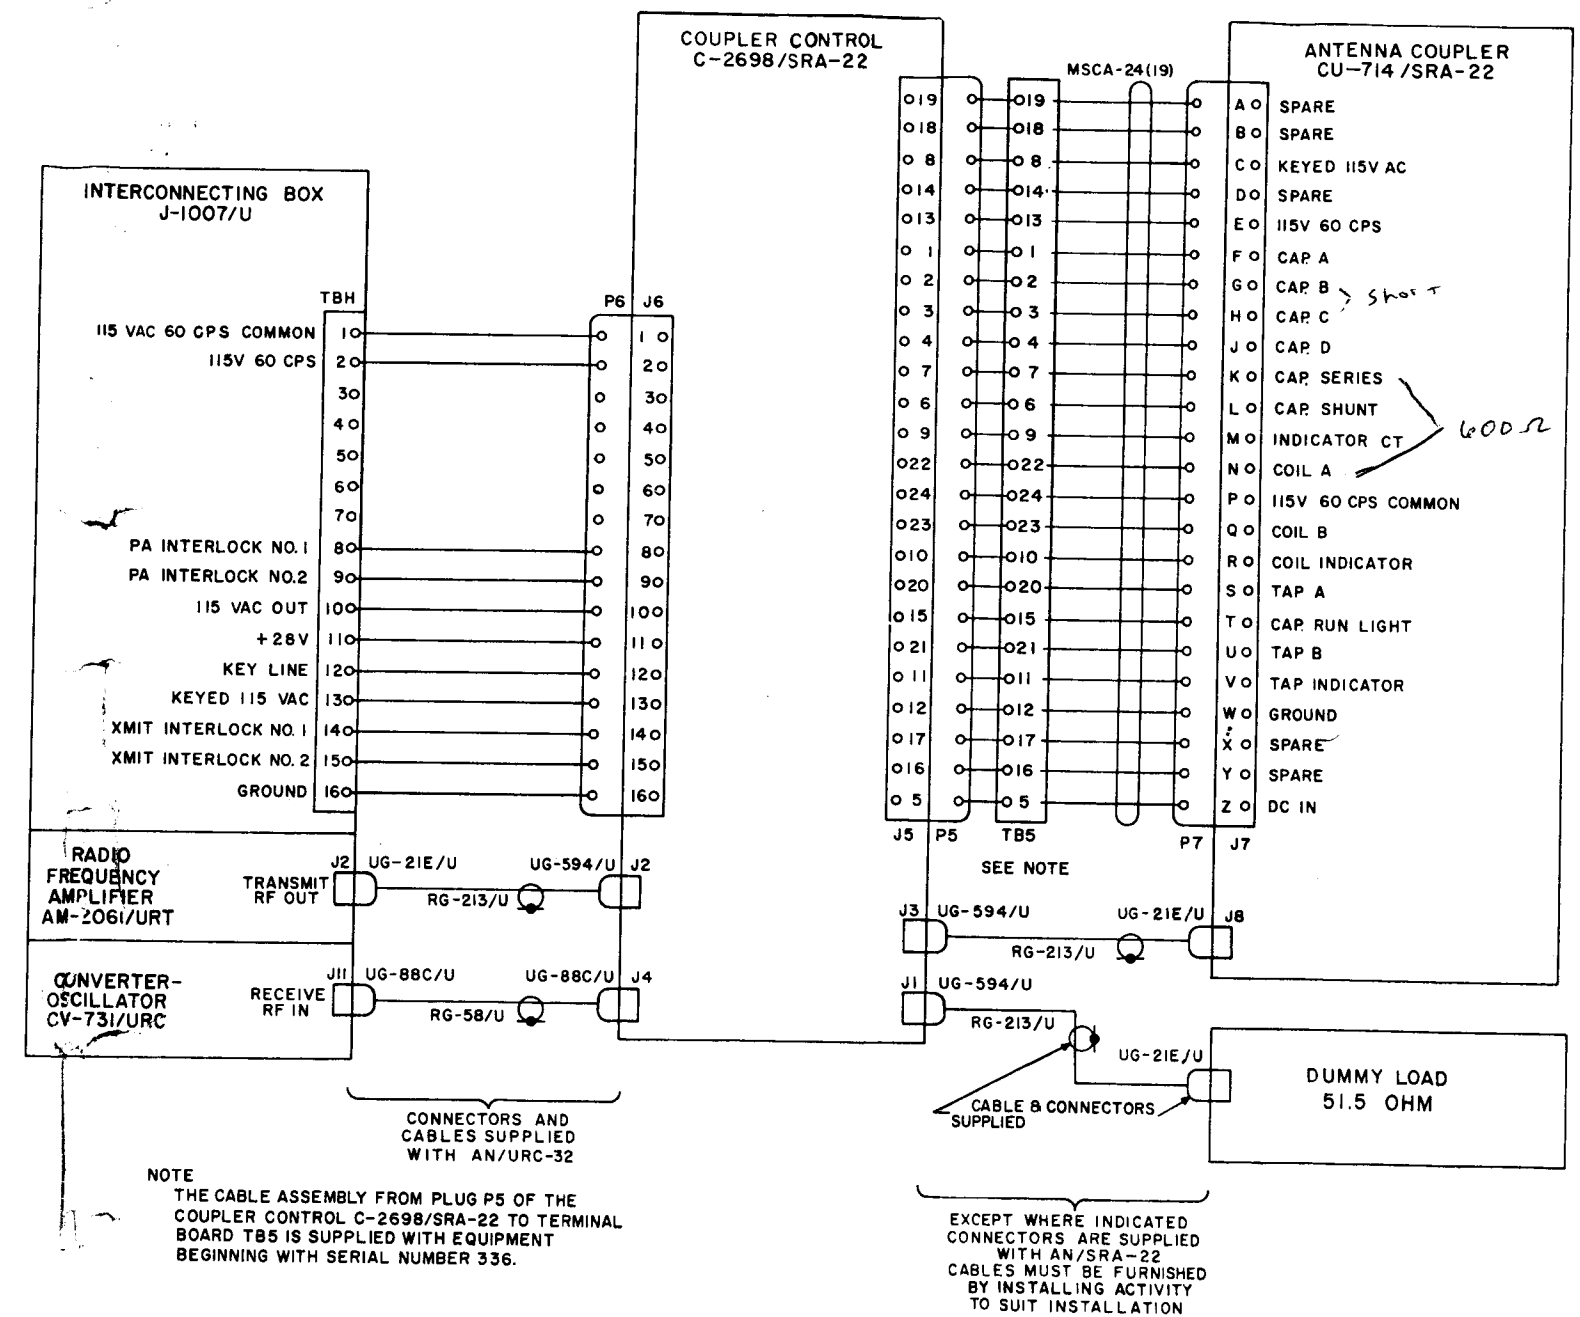
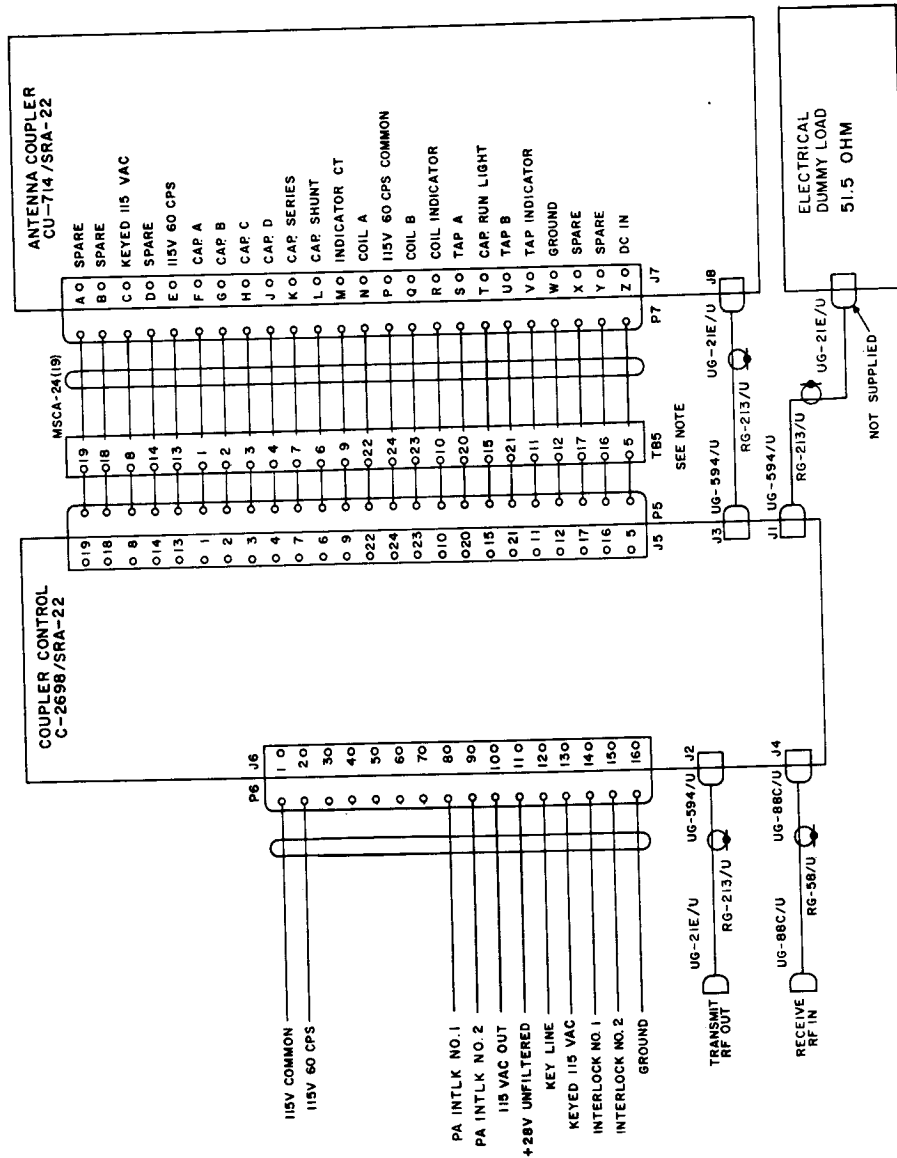
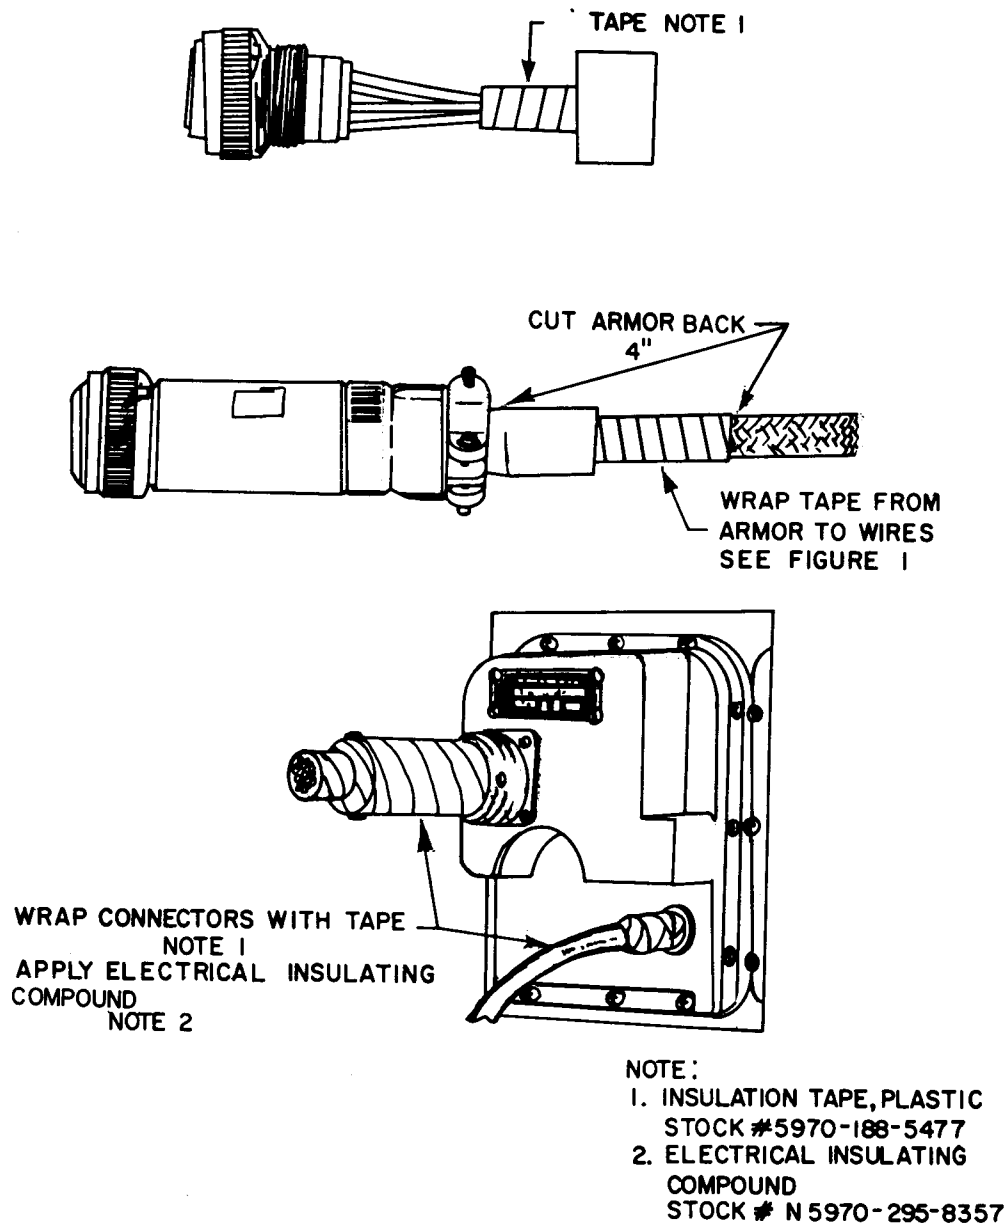

Figure 7-3. Interconnecting Diagram of Antenna Coupler Group AN/SRA-22 with Radio Set AN/URC-32
Figure 7-4. Interconnecting Diagram of Antenna Coupler Group AN/SRA-22 for Use as Separate Unit
Figure 7-5. Antenna Coupler CU-714/SRA-22 Weatherproofing Procedures
(3) INTERCONNECTING DIAGRAMS. — Figure 7-3 is an interconnecting diagram of Antenna Coupler Group AN/SRA-22 for use with Radio Set AN/XXX. Figure 7-4 shows an interconnecting diagram of the antenna coupler group for use as a separate unit with other transmitters. Cable requirements are given in table 7-1.
(4) CABLE ASSEMBLY. — Install type-N connectors on the RG-213/U and/or RG-215/U type cables. Install 16-pin plug 2P6 on one end of No. 22 AWG multiconductor interconnection cable when Antenna Coupler Group AN/SRA-22 is used with equipment other than Radio Set AN/XXX. Cut cable to the required length for specific installation. Install 24-pin plug 2P5 on one end of cable, and terminate the other end of the cable to terminal board TB-5. Install a 24-pin round plug 1P7 on another 22-AWG multiconductor interconnection cable, and terminate the other end of this cable to terminal board TB-5. For instructions on installing the connectors and plugs to the cables, refer to Electronics Installation and Maintenance Book, NAVSHIPS 0967-000-0113.
(5) WEATHERPROOFING. — The 24-pin round plug 1P7 and the type-N connector that terminate at the antenna coupler must be weatherproofed. Figure 7-5 weatherproof procedures. Cut the armor back 4 inches from back of plug 1P7. Wrap completely with two layers of plastic tape with 50-percent overlay between turns from armor to wires connected to the plug. Hand-tighten the connector to the antenna coupler. Wrap completely with several layers of plastic tape with 50-percent overlay between turns. Extend plastic tape 5 inches beyond end of the connector. Seal the taped connector with one coat of electrical insulating compound. Extend 1 inch beyond the plastic tape impregnating the armor.
(1) Check grounding of the antenna coupler case to the ship or ship grounding system. It is most important to have a good ground for the antenna coupler. A solid copper strap, illustrated in figure 7-5, not less than 3/4-inch wide and secured with 1/4-20 (or larger) bolts, should be installed for bonding the case to the ship hull. See Shipboard Interference Reduction, NAVSHIPS 900,171, for grounding specifications.
(2) Set TAP COARSE TUNE-FINE TUNE switch on coupler control to COARSE TUNE and note if TAP indicator meter changes reading.
(3) Set COIL COARSE TUNE-FINE TUNE switch on coupler control to COARSE TUNE and note if COIL indicator meter changes reading.
(4) Set LOAD-ANT switch on coupler control to LOAD position. (Make sure that a dummy load is connected to the coupler control.) Refer to paragraph 2-3b(1) and perform the procedures as outlined.